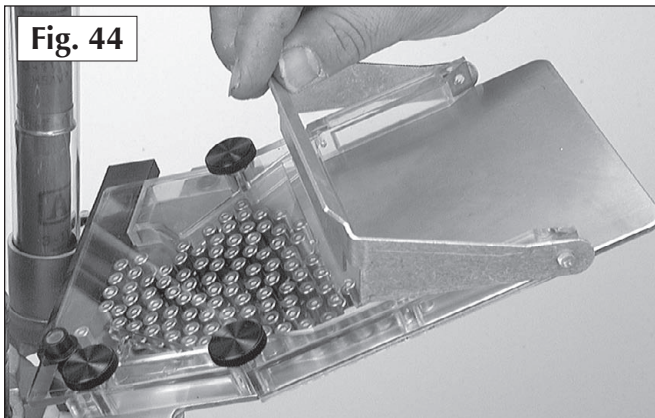

Fig. 44
11. Raise the primer gate and the group of primers will slide down to the primer slide upper (#16713). **Fig. 44**